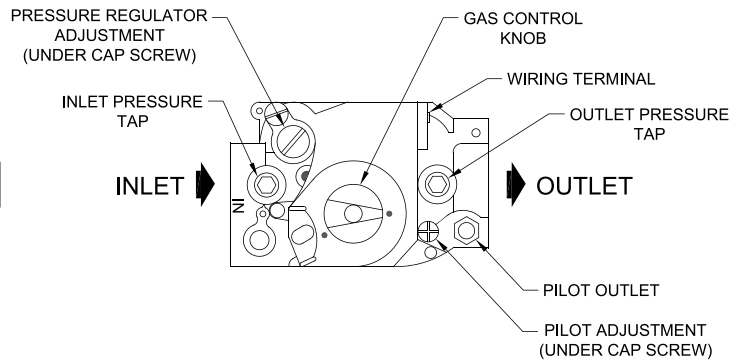

Figure 12-2: Top View of Gas Valve
- Connect a manometer to the inlet pressure tap on the gas valve (see Figure 12-2).
- Connect a manometer to the manifold (outlet) pressure tap on the gas valve (Figure 12-2).
- If a manifold pressure adjustment is needed, make the adjustment by turning the regulator screw (see Figure 12-2) clockwise to raise the pressure and counter-clockwise to reduce the pressure. If a manifold pressure adjustment is made, recheck the inlet pressure after making the adjustment to be certain that it is still within acceptable limits. Replace the cover screw on the regulator.